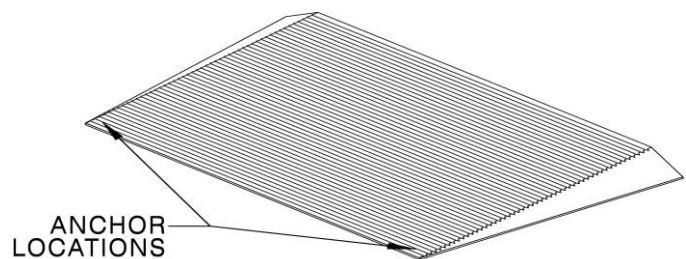

FIG. 3
- 6.1. To ensure that the mat does not move from its intended location, place the mat and anchor in both locations shown (FIG. 3).
- 6.1.1. ANCHOR TO WOOD: Using provided (2 ea.) Phillips head screws, spaced evenly approximately 1" from each lower corner edge as shown (FIG. 3), drive screws through the mat and into the wood surface until the head is seated just below the mat surface.
- 6.1.2. ANCHOR TO CONCRETE: Using a 1/4" diameter masonry bit, drill a hole through the mat and 2" deep into the concrete, spaced evenly approximately 1" from each lower corner edge as shown (FIG. 3). Remove debris from drilled holes, then drive the provided (2 ea.) 1/4" diameter mushroom head pin anchors through the mat and into the holes with a hammer until the head is seated just below the mat surface.